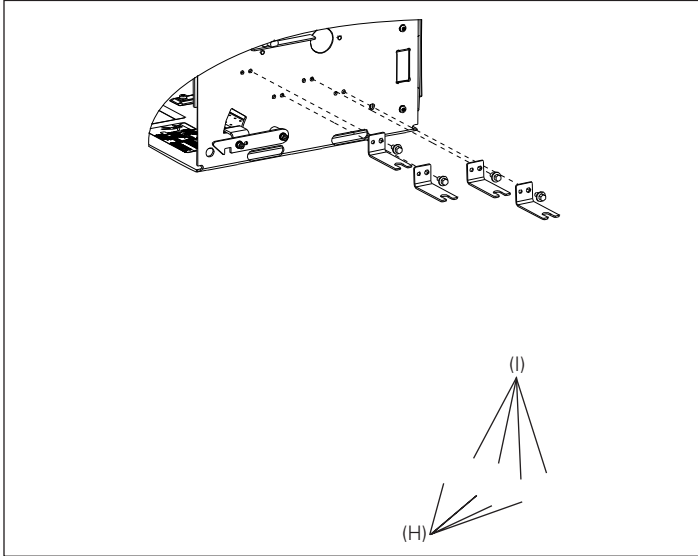

Figure 10. Details for Step 7
Fasten four cable brackets (H) to interlock mounting plate (K) just below interlock assembly mounted in **Step 6** using four M6 x 10 mm thread-forming screws (I) as shown in **Figure 10**. Torque to 7,3–9,6 N·m (65–85 in-lb).